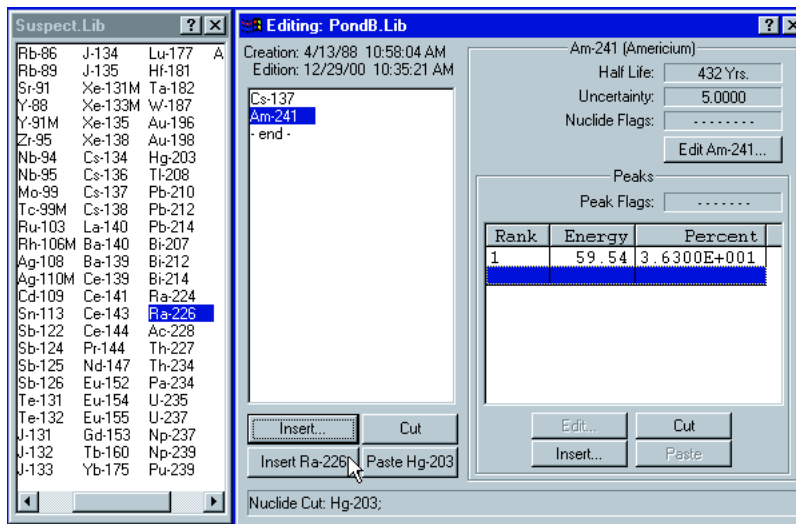

Fig. 33
2.7 We will add Ra-226 and Th-234 to the library. Highlight Ra-226 from the Suspect list (with a single click). Next, click **Insert Ra-226** in the PondB Editor Window (Fig. 33). Repeat this exercise for Th-234. Close the Suspect list by clicking the "X" in the upper right-hand corner of the window. Close the PondB library in the same way. You will be prompted that the library has been changed and asked to save the changes — answer yes to these questions and you will return to the MCA window.